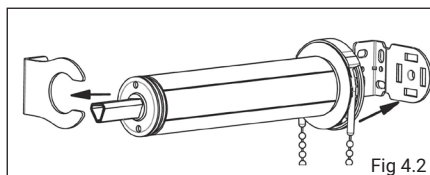

Fig 4.2
2. Install the master blind first. Insert the chain drive into the bracket until it engages, then slide the bearing at the other end in the link brackets. If it doesn't go in easily, slightly rotate the bearing until it slides into the bracket (Fig 4.2).